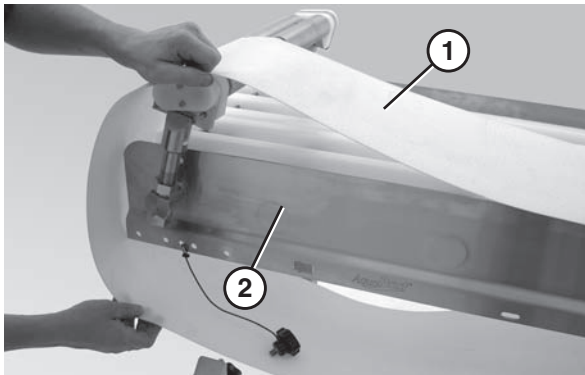

Figure 49
- Slide the old belt (**Figure 49, item 1**) off the conveyor frame (**Figure 49, item 2**).